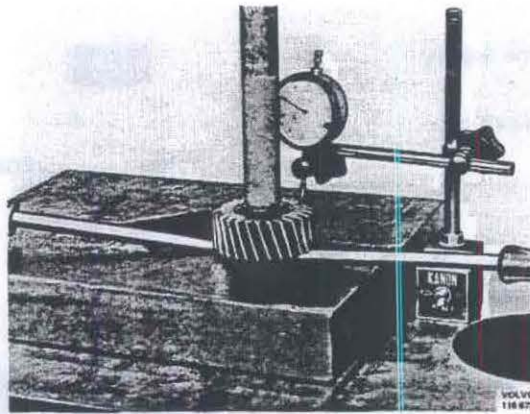

Fig 46-147 Checking the gear axial
6. Place the drive gear in a press, Fig. 46-147. Press the bearings together with a pressure of about 1 ton. Place a dial indicator with measuring point against the flat surface of the gear, see Fig. Check the gear axial clearance with the help of screwdrivers. The clearance must be 0.03-0.08 mm (0.012-0.032"), which is adjusted by means of shims from the following sizes: 1.25; 1.30; 1.35; 1.40; 1.60; 1.65; 1.85; 1.90; 1.95; 2.00 mm.